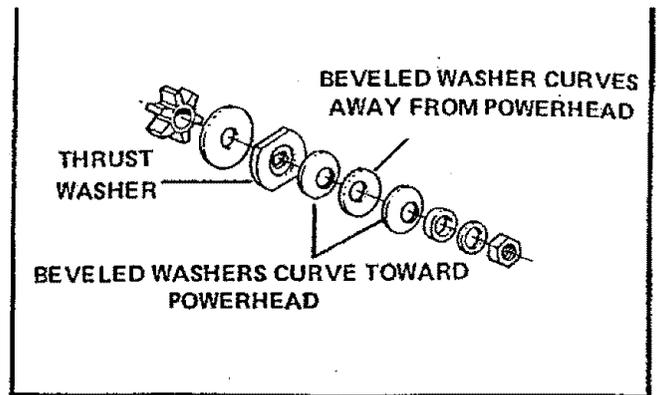

Figure 48
- d. Slide washer from shaft. Figure 48.